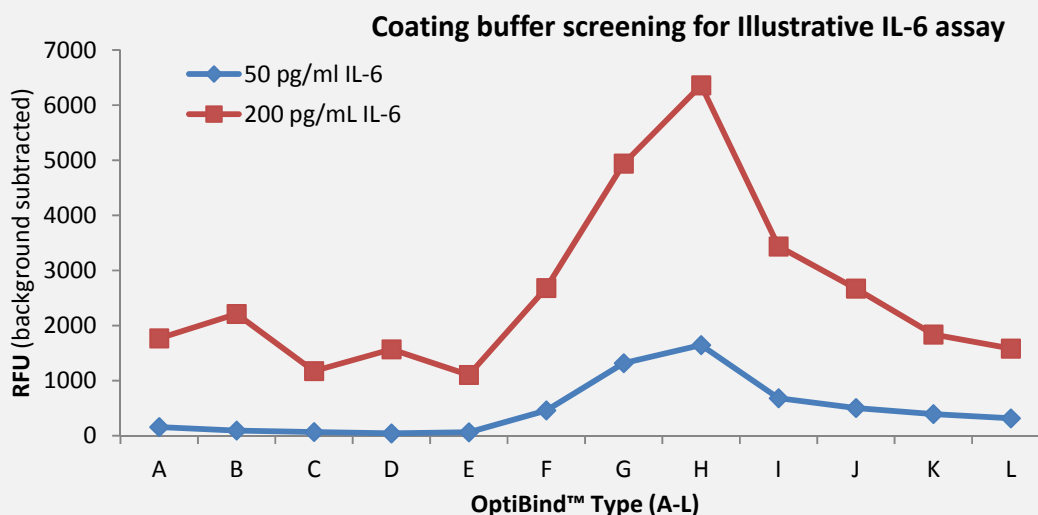

Figure 7. Results for coating buffer screening test for Illustrative IL-6 assay.
5. Choose the type of OptiBind™ coating buffer which gives highest signal (after subtracting background). See **Figure 7**.
Figure 7 shows screening test results for the illustrative IL-6 assay. Protein standard concentrations of 200 pg/mL (80% of max) and 50 pg/mL (20% of max) were used. 2 µg/mL of capture antibody and 2 µg/mL of detection antibody were used for this assay. Data read using Biotek FLx800 fluorescence plate reader with excitation filter at 528/20nm and emission filter at 590/35, sensitivity at 45. Data acquisition and analysis utilized Gen5™ software and Excel.